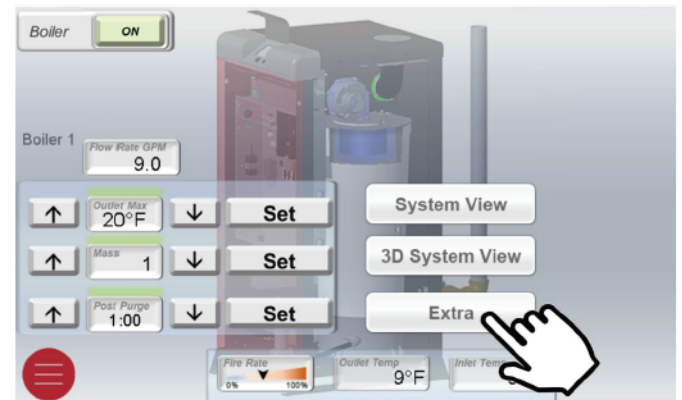

Figure 57. Boiler 1 "Extra Button"
4. Tap on the "Extra" button per **Figure 57**.